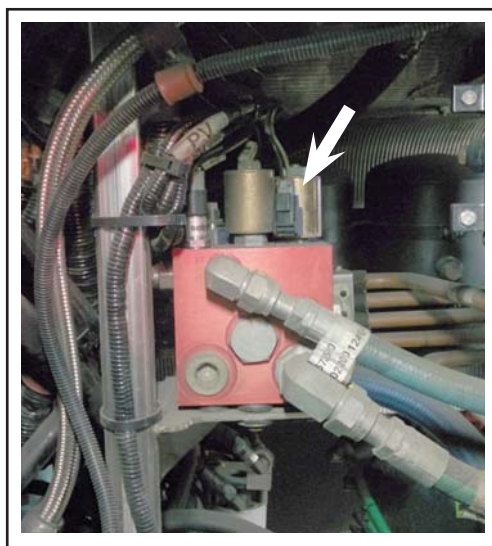

Figure 2 - Location of the +EN-X64AN Connector
- 1.5. Locate the +EN-X64AN electrical connector on the hydraulic fan control manifold. See Figure 2.